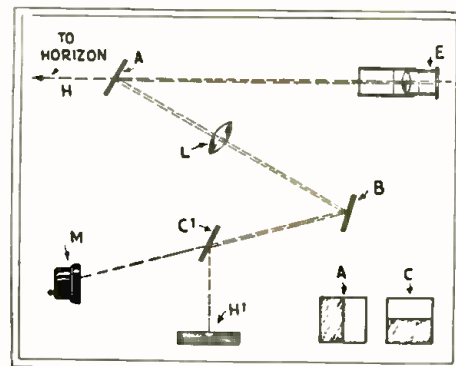

Fig. 2
horizon; at the same time, the horizon (H) is caused to coincide with the intersection of the cross-hairs in the field of view of the instrument (Fig. 2.) An adjustment is sought, in the light of the observer's estimated position; and then the screw is turned until the horizon appears in its correct place. The sun's elevation is then read off on the scale below, and the usual corrections and calculations of the navigator are carried out. As a matter of fact, this method of measurement eliminates the calculation for variation of the solar diameter.
Should the actual horizon be invisible, then resort to the method of an "artificial horizon" must be sought. This is found by means of a small level in the base of the instrument. The reflection of its bubble (H'—Fig. 2) is brought up to the horizon line; the insertion of a simple slide behind the half-mirror A serving to divert the optical train from the actual horizon to the bubble.